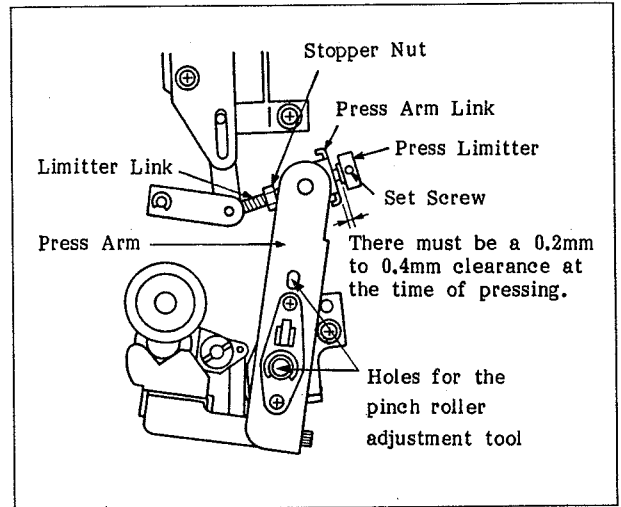

Fig. 6-99 Adjustment of the Pinch Roller Pressure
- d. Check that there is a 0.2mm to 0.4mm clearance between the press link and the press limiter, as shown in Figure 6-99. If there is, go to step f. If there is not, make the following adjustments.
- h. Adjust the value of the torque with the stopper nut shown in Figure 6-99. Then, repeat step g.